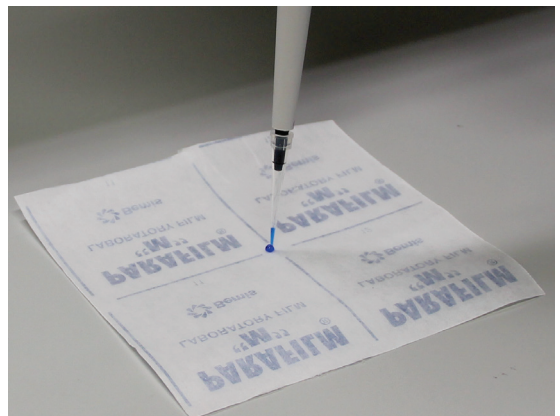

Fig. 10
4. Cut a piece of parafilm. Using a P10 micropipette and a sterile tip, pipette 1 μ l DNA loading dye onto the parafilm (Fig. 10).